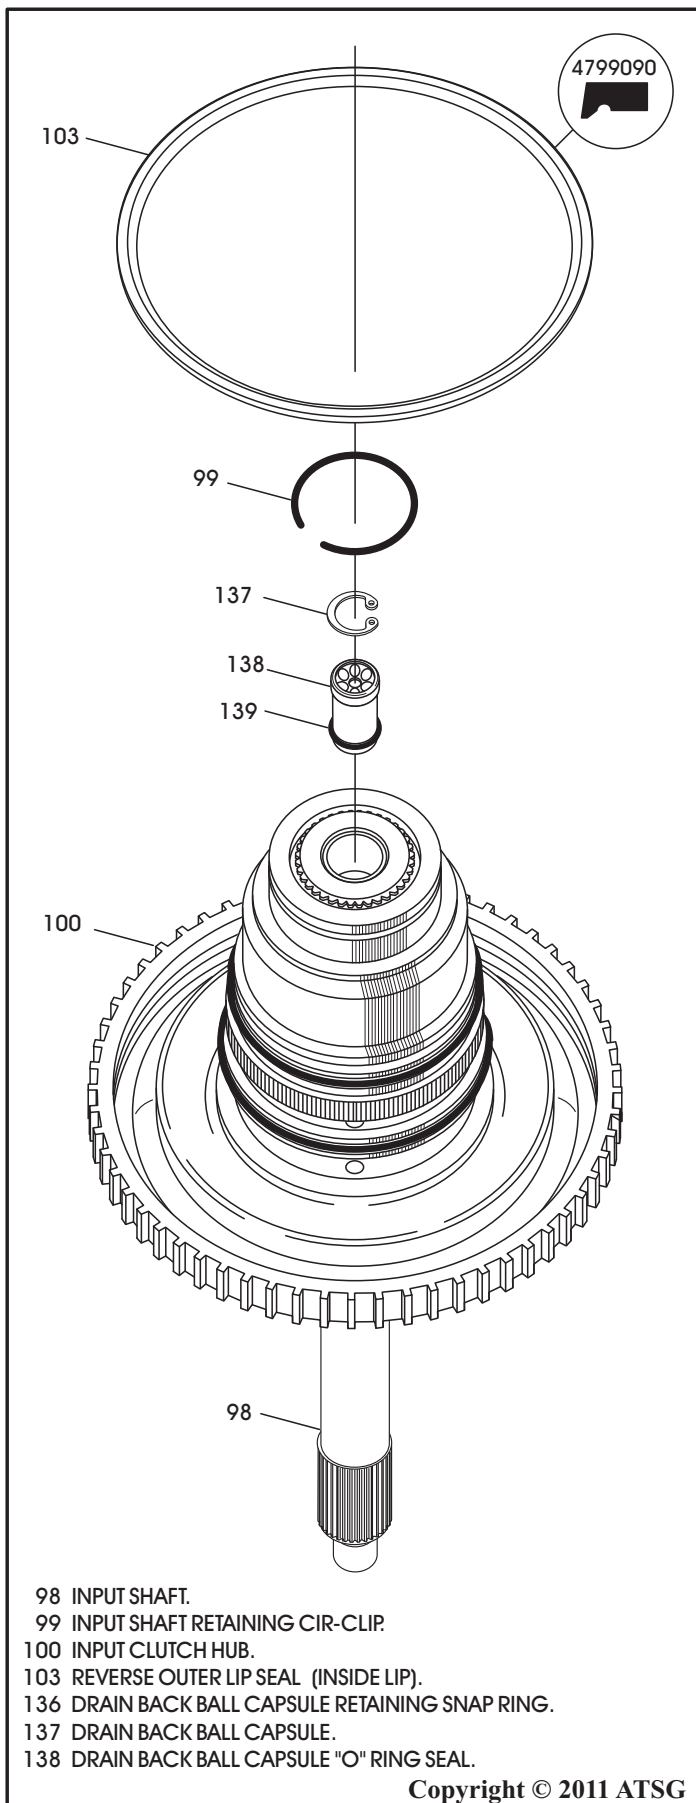

Figure 95
3. Remove the small "eyelet" snap ring from the input shaft as shown in Figure 95.
4. Remove the drain back ball capsule assembly from the input shaft using a pick tool. Remove and discard the "O" ring (See Figure 95).
6. Install the drain back ball capsule back into the input shaft in the direction shown in Figure 95.
7. Install the "eyelet" snap ring and ensure that it is fully seated (See Figure 95).
8. Install new lip seal into the groove in the input clutch hub with the lip facing down as shown in Figure 95 and lubricate with a small amount of TransJel®.